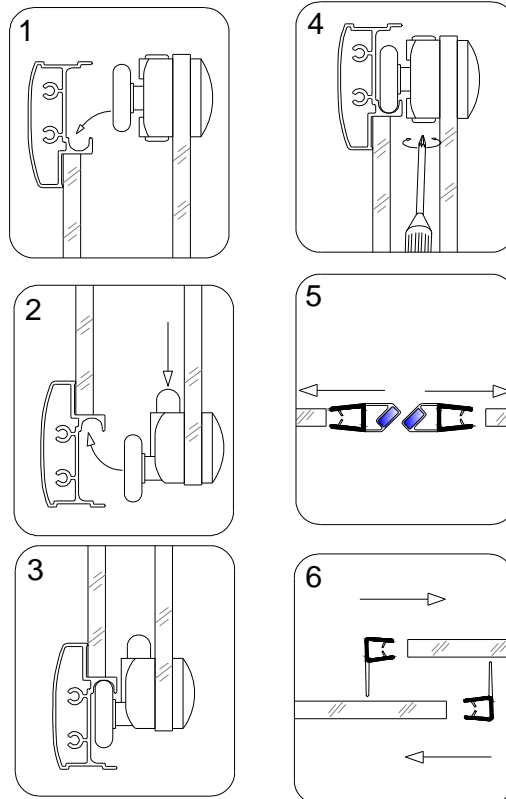

Fig 8
7. Secure the **Handle (06)** to the **Glass doors (04)**. Slide the top door wheels into the top guide rail and push the bottom wheels in the bottom guide rail by pressing down the button. Attach the **Magnetic strips (07)** to the glass doors. Use the Phillips screwdriver #2 (**do not use power screwdriver**) to adjust the upper wheels, make sure they move smoothly and the doors close tight. Then attach the **Anti-water strips (08)**. See Fig 8 for details.